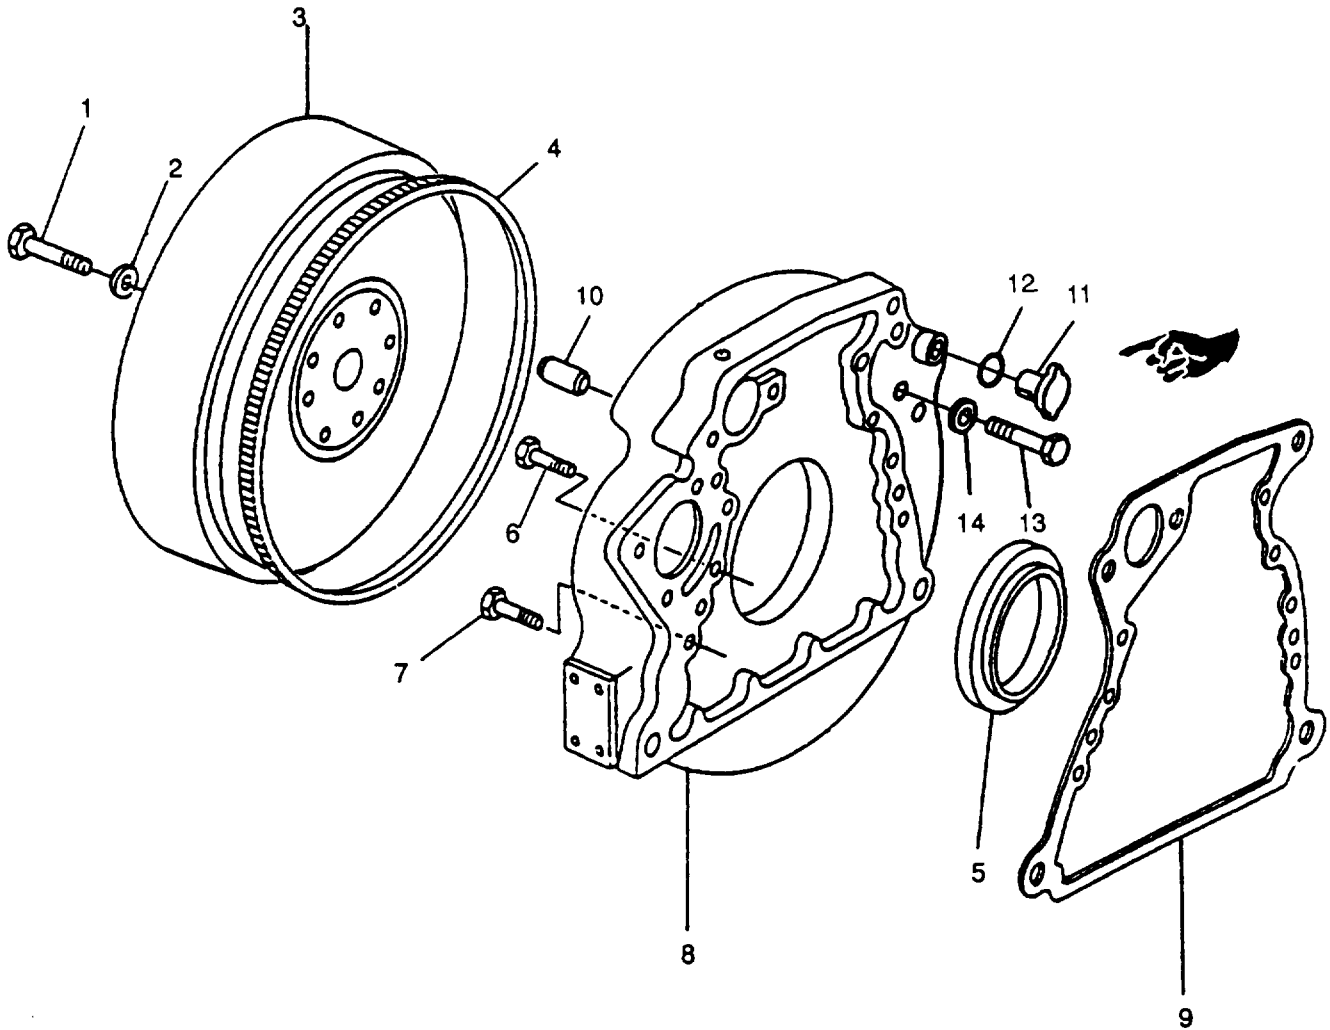

FIGURE 3-105. Flywheel and Housing Assembly
- b. Remove two capscrews (1, FIGURE 3-105) and washers (2). Replace these with two guide studs.
- c. Remove other two capscrews (1) and washers (2). Install these two capscrews in threaded holes of flywheel (3).
- d. Use two capscrews in step b to jack flywheel (3) off crankshaft.
- e. Remove flywheel (3) and two capscrews (1).
- a. If ring gear (4, FIGURE 3-105) is damaged, place the flywheel (3) on a solid flat surface.
- b. Drive ring gear (4) off with a brass drift and hammer.
- a. Apply adhesive (LOCTITE 242) to threads of four new capscrews (1, FIGURE 3-105).
- b. Install two guide studs in crankshaft capscREW threaded holes. Place flywheel (3) on studs and slide into position against crankshaft.
- c. Use a slide hammer/puller and a sheet metal screw to pull seal (5, FIGURE 3-105) from housing. Discard seal.
- b. Remove oil seal/wear sleeve (5, FIGURE 3-105), refer to paragraph 3-36.1.
- c. Support weight of flywheel housing (8) and remove eight 3/8-inch capscrews (6) and four 5/8-inch capscrews (7) securing housing to engine block; remove housing (8) and gasket (9). Discard gasket (9).
- c. Inspect dowel pins (10, FIGURE 3-105) for damage. Replace if damaged.
- d. Remove and inspect plug (11) and preformed packing (12) for damage. Replace if damaged. Otherwise, install preformed packing (12) and plug (11).
- e. Remove and inspect bolt (13) for damage. Replace if damaged. Otherwise, install bolt (13).
- (1) Attach magnetic base of dial indicator to flywheel end of crankshaft.
- (2) Position dial indicator against ID of seal bore in flywheel housing.
- (3) Turn crankshaft 360 degrees at front of engine, using center bolt on harmonic balancer. Maximum permissible TIR is 0.006 inch (0.152 mm). If run-out exceeds limit, replace flywheel housing.
- a. Install new silicone bead/gasket (9, FIGURE 3-105) on block. Gasket should be a silicone bead.